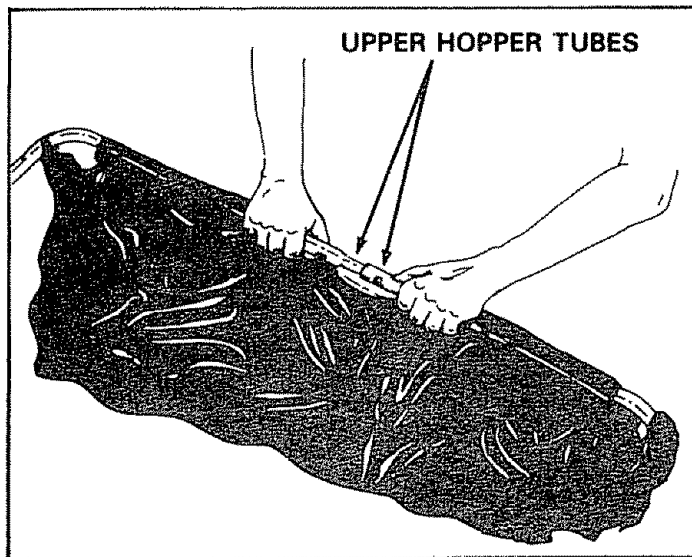

FIGURE 11
3. Slide the two upper hopper tubes together, as shown in figure 11. Line up the center holes.